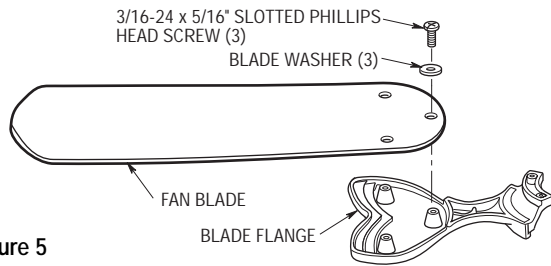

Figure 5
7. Mount blade flanges to fan blades using three 3/16-24 x 5/16" slotted Phillips head screws and three blade washers (Figure 5).